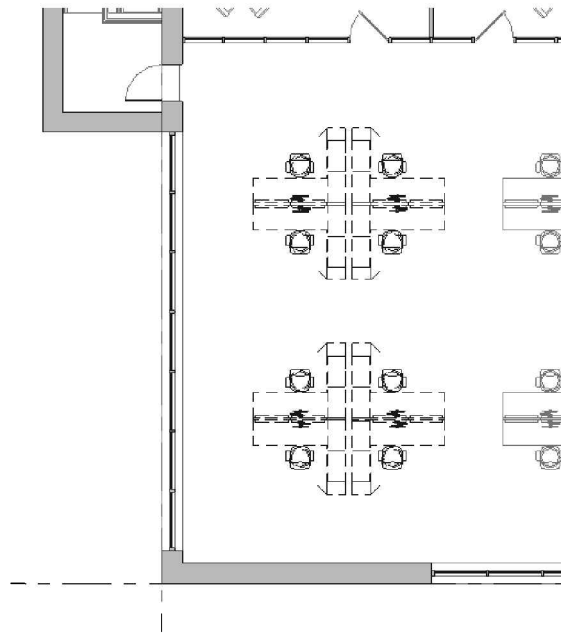

FIGURE 17-3.13
37. In the **Level 2 – New** floor plan view, demolish the eight desks shown dashed in Figure 17-3.13.